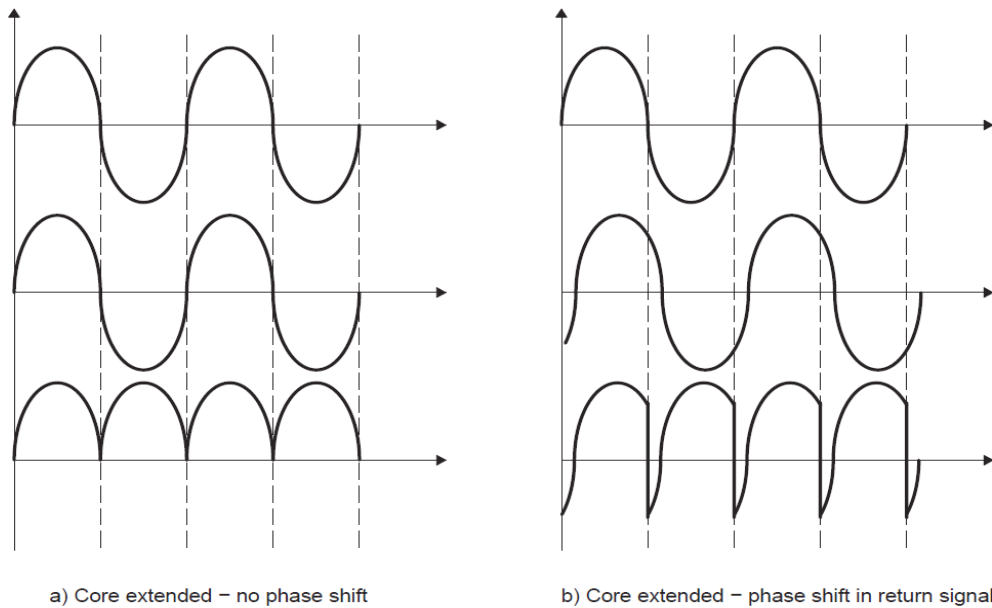

Figure 2: Demodulation of the return signal (Secondary coil)
2. Phase Trimmer: The demodulation process is done by multiplying the return signal (secondary Coil signal) with the reference signal (signal used for the primary coil). If both signals are in phase, the result is of the form $\sin^2\theta$. See figure 2. Then using a LPF, the signal can be smoothed and we can get a voltage linearly proportional to the position of the core.
If the signals are not in phase, the multiplication process yields sum and difference terms which in combination give under shoots in the rectified signal. See figure 2.
4. With the core at the extreme final position we need to adjust the phase trimmer in order to get the return signal and the reference signal in phase. In principle we should compare this two signals with an Oscilloscope but it is more simple to look at the value of the demodulated signal in the digital model (MEDM screens) and adjust the trimmer until we get the maximum value. This is indeed setting the reference signal and the return signal (secondary coil signal) in phase. See figure 2.